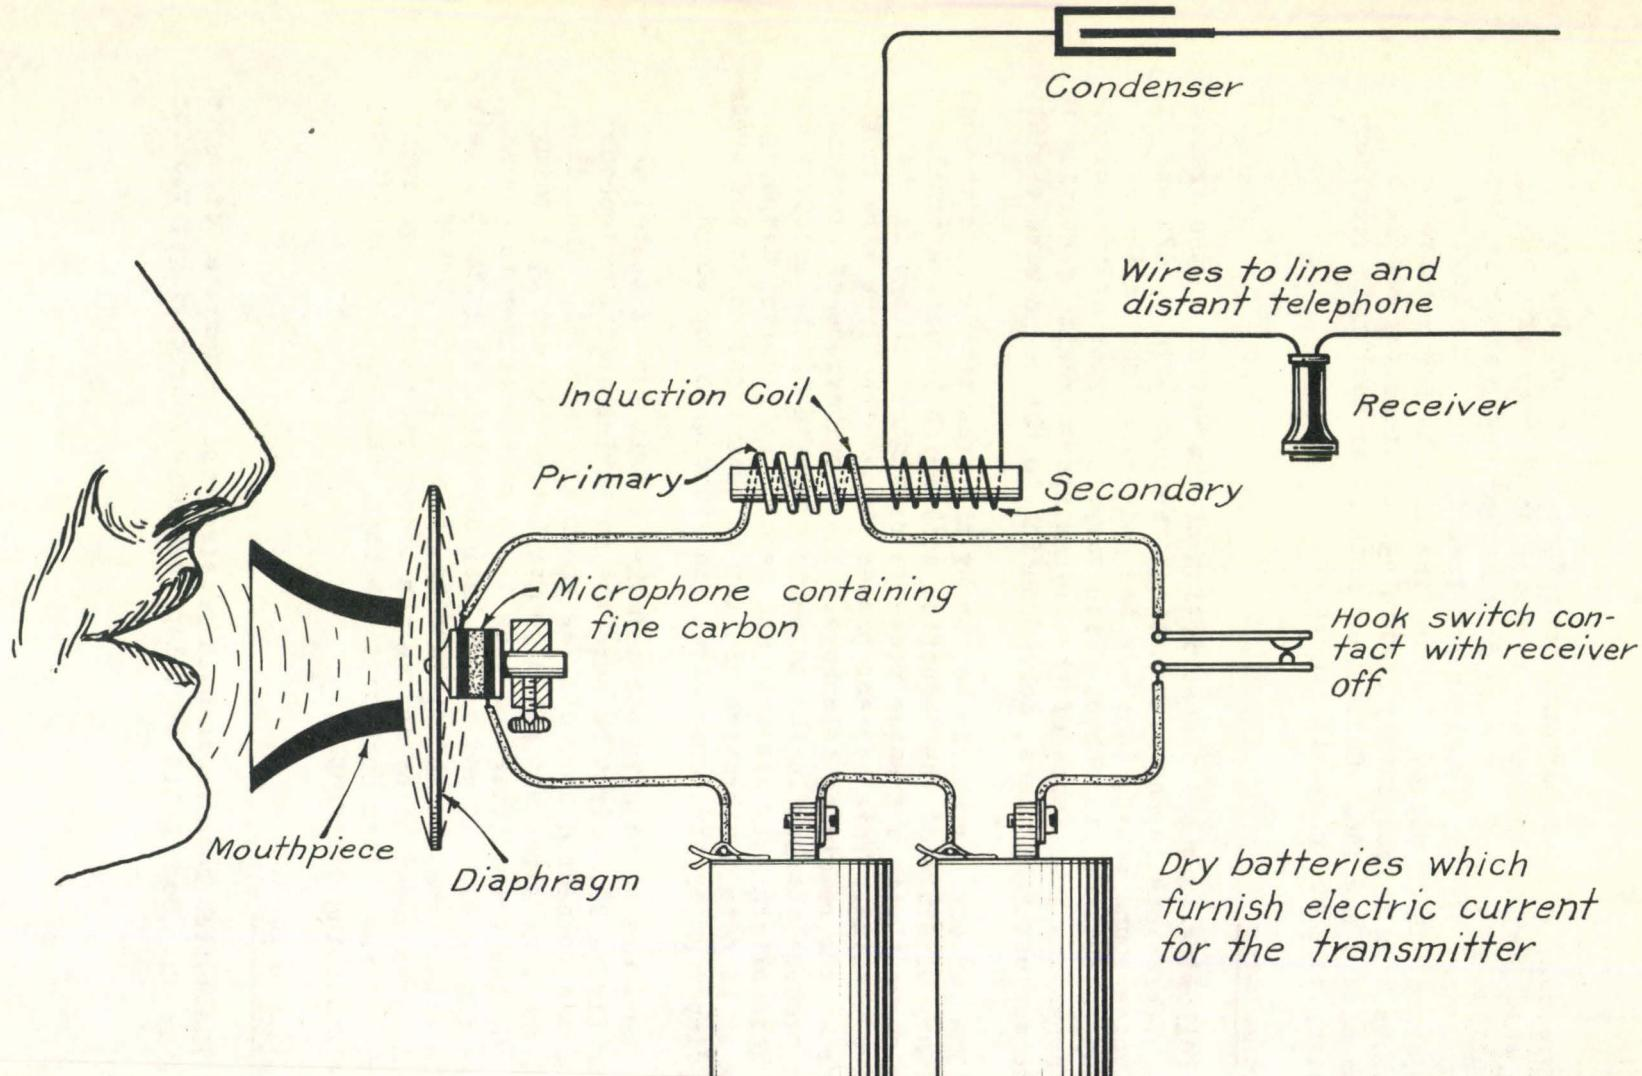

FIGURE 87
4. The transmitter circuit, figure 87, sometimes referred to as the primary or battery circuit, includes the batteries, hook switch, primary or heavy winding in the induction coil, and the transmitter. This circuit is connected to the line only through the induction coil.
Following is a brief description of the action of the transmitter. Vibrations in the transmitter diaphragm, figure 87, set up by the voice sound waves, compress the pulverized carbon in the small cup called the microphone, with varying degrees of intensity. This changes the resistance of the transmitter circuit, resulting in electric current variations, corresponding to the sound wave variations.
There are no adjustments to make, but it may be tested as shown in figure 93. First be sure the batteries in the telephone are good and connected correctly as shown in figure 61. Then disconnect the line wires and put a jumper between L_1 and L_2 binding posts, tap the transmitter and blow in it with receiver to ear as shown in figure 93. If you do not hear anything, it is most likely that the fine carbon in the microphone, figure 87, is packed. This can usually be remedied by moving the transmitter arm up and down rapidly. If the switch hook contacts have been bent, or are dirty, see the following paragraph.